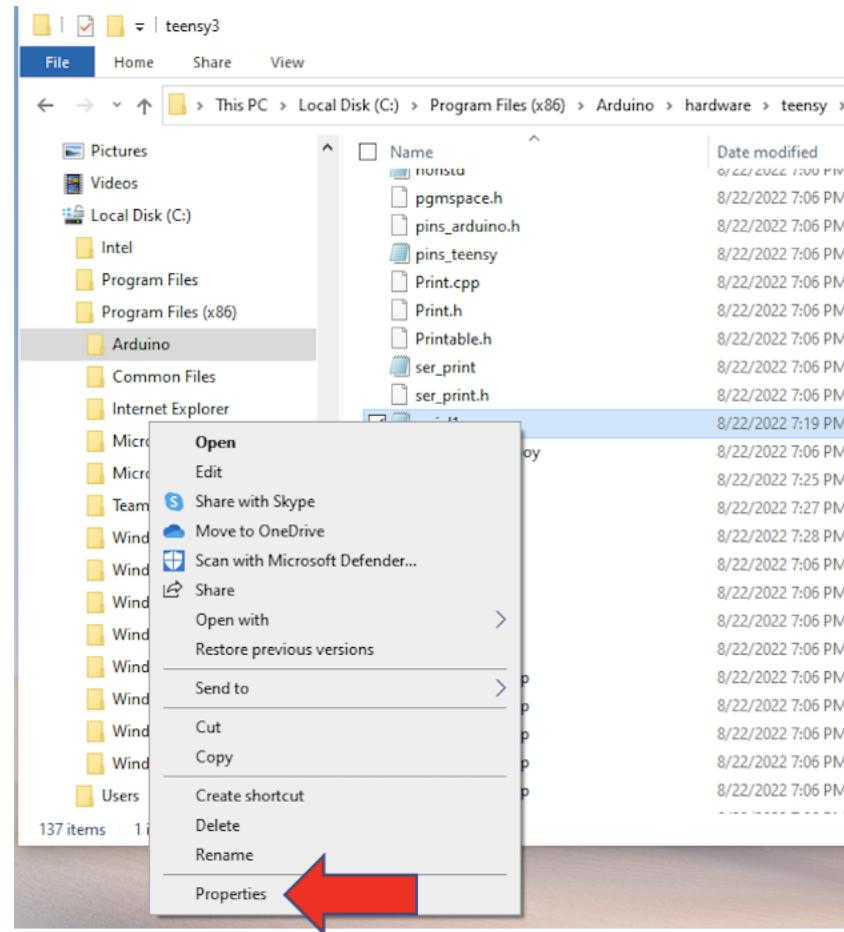

Figure 72. Right click on serial1. Window opens, select PROPERTIES
- Select PROPERTIES (Figure 72)